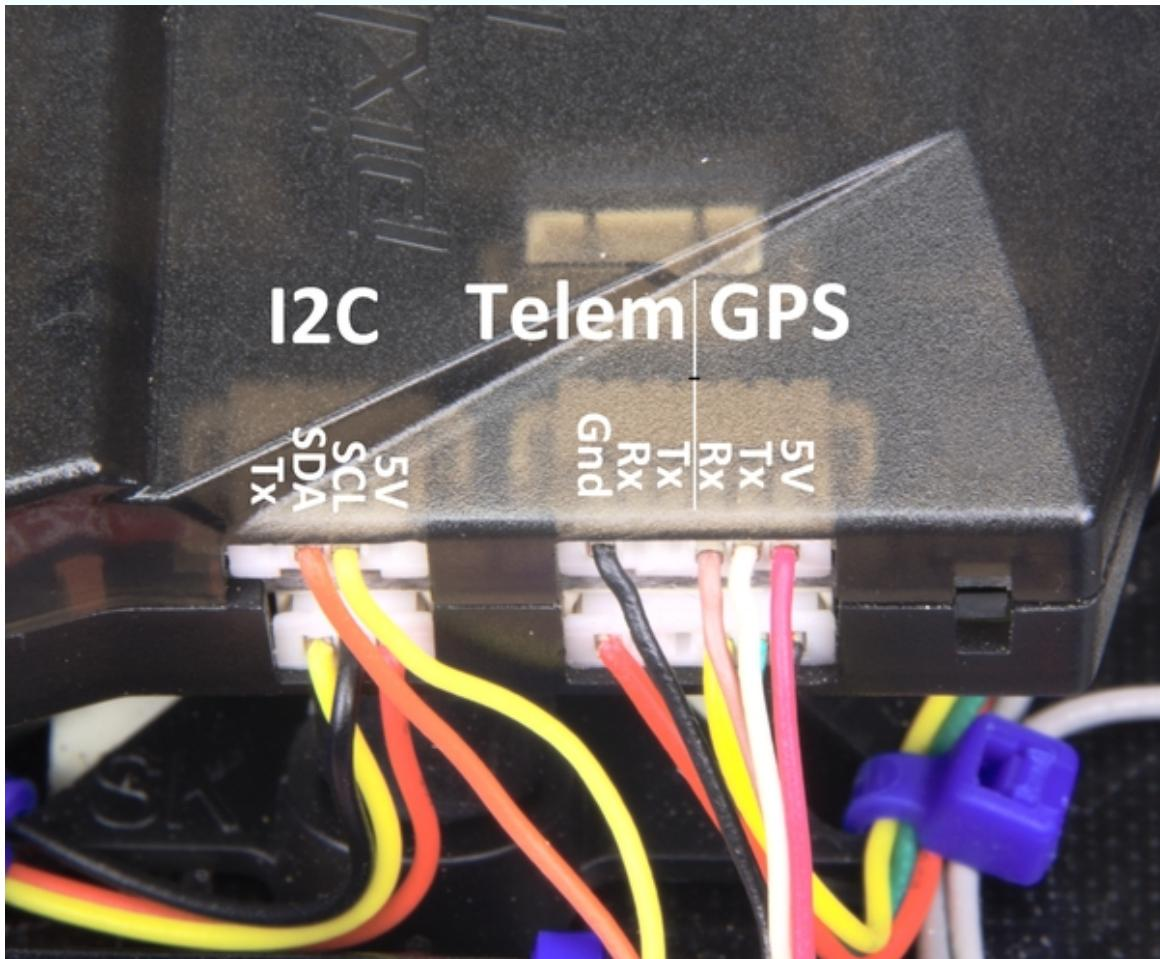

Figure 18-6. The Pixhawk Lite uses shared GPS and telemetry ports
Red almost always means positive — in this case, 5 volts — so looking at the pinout of the Pixhawk in Figure 18-6 you can see that the red and black wires must be swapped. I guessed at which wires were transmit (TX) and receive (RX), but I guessed wrong. When I powered up my flight controller, I got blinking lights on the GPS, but the controller didn't recognize it. You can check by connecting to your ground station software. If the GPS works, you will see some status like “GPS: No Fix.” If you don't get any kind of GPS status, try swapping the TX and RX lines.